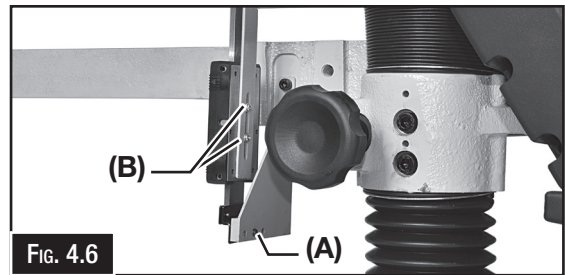

FIG. 4.6
1. Secure the Digital Height Gauge by tightening the cap hex screw (A) through the bottom bracket, then fasten the two screws (B) into the top bracket as shown in (Fig. 4.6).